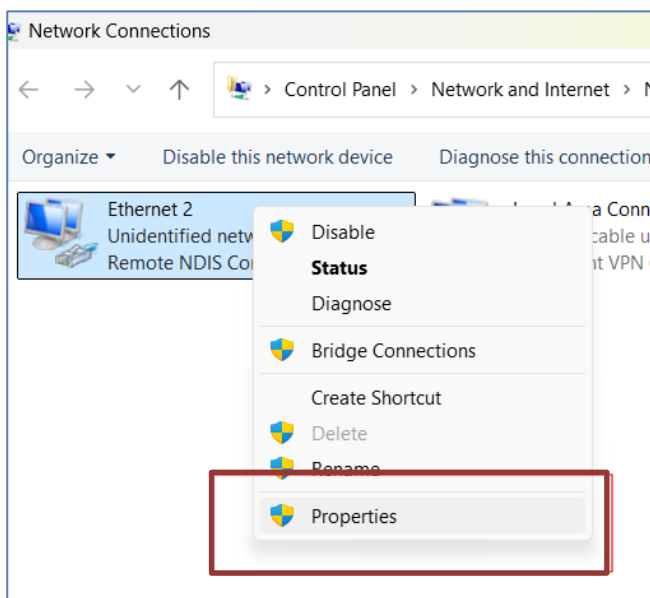

Figure 5 : Network Properties
- c. Right click on the Ethernet icon and select "**Properties**", as in Fig. 5